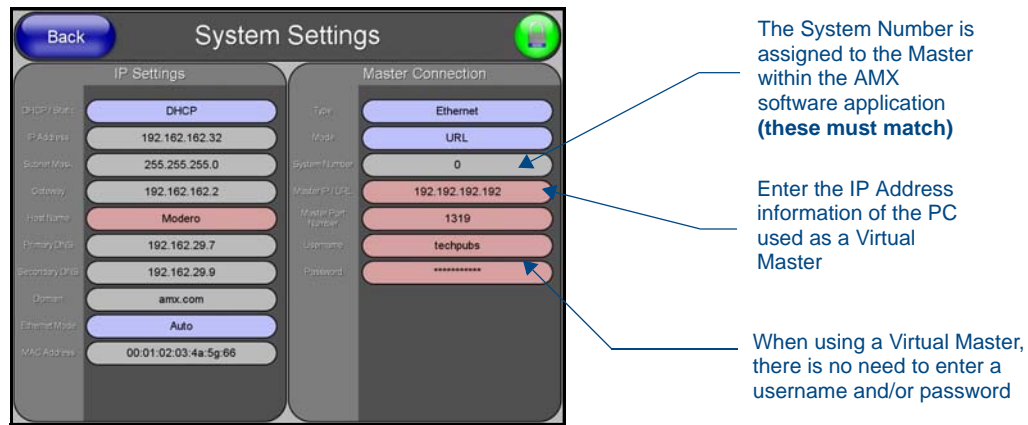

FIG. 65 Sample System Settings page (for Virtual Master communication)
13. Select **Protected Setup > System Settings** (located on the lower-left) to open the System Settings page (FIG. 65).